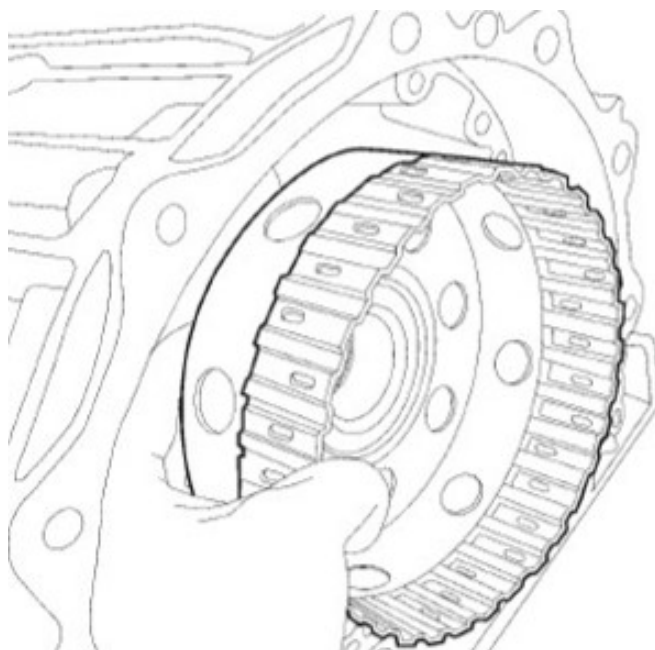

Fig. 10
13. Remove and inspect the K1 thrust bearing number two Fig 10. **Replace only if needed.**
18. Lubricate with trans jel or petroleum jelly and install K1 thrust bearing number two into K1 Clutch Hub Fig 10.
19. Install the K1 clutch hub and thrust bearing into the transmission case Fig 10.